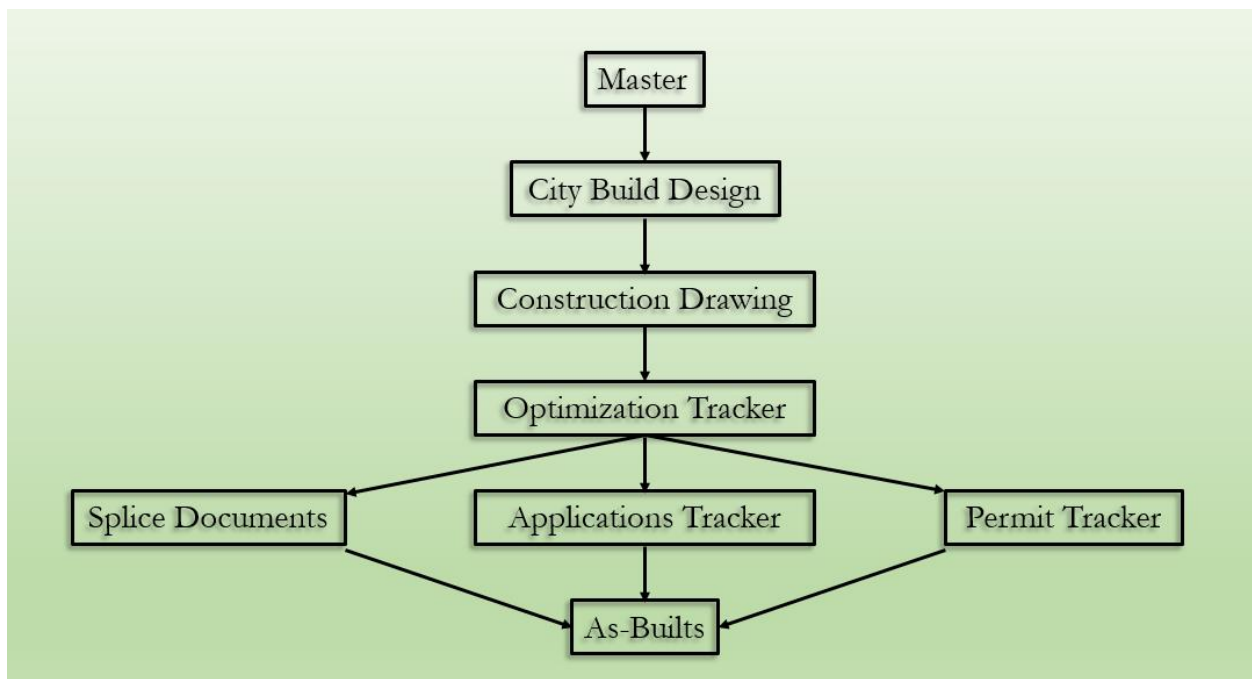

Figure 2.1.1: OSP Design Workflow
3.1.2.1. Every task has a type and a subtype, depending on what department and what project is being worked on. As tasks are created, they are assigned a task number. Each LCP city build has a set of tasks that fall under a ‘master task’; these tasks follow the OSP Design workflow shown in Figure 2.1.1. As a city build project is carried out in the OSP Design department, each successive task in the workflow is updated and closed on Footprints. The project is in its final stages when it reaches the As-Built Update task. Closing off the as-built task will close off the master task for that project.